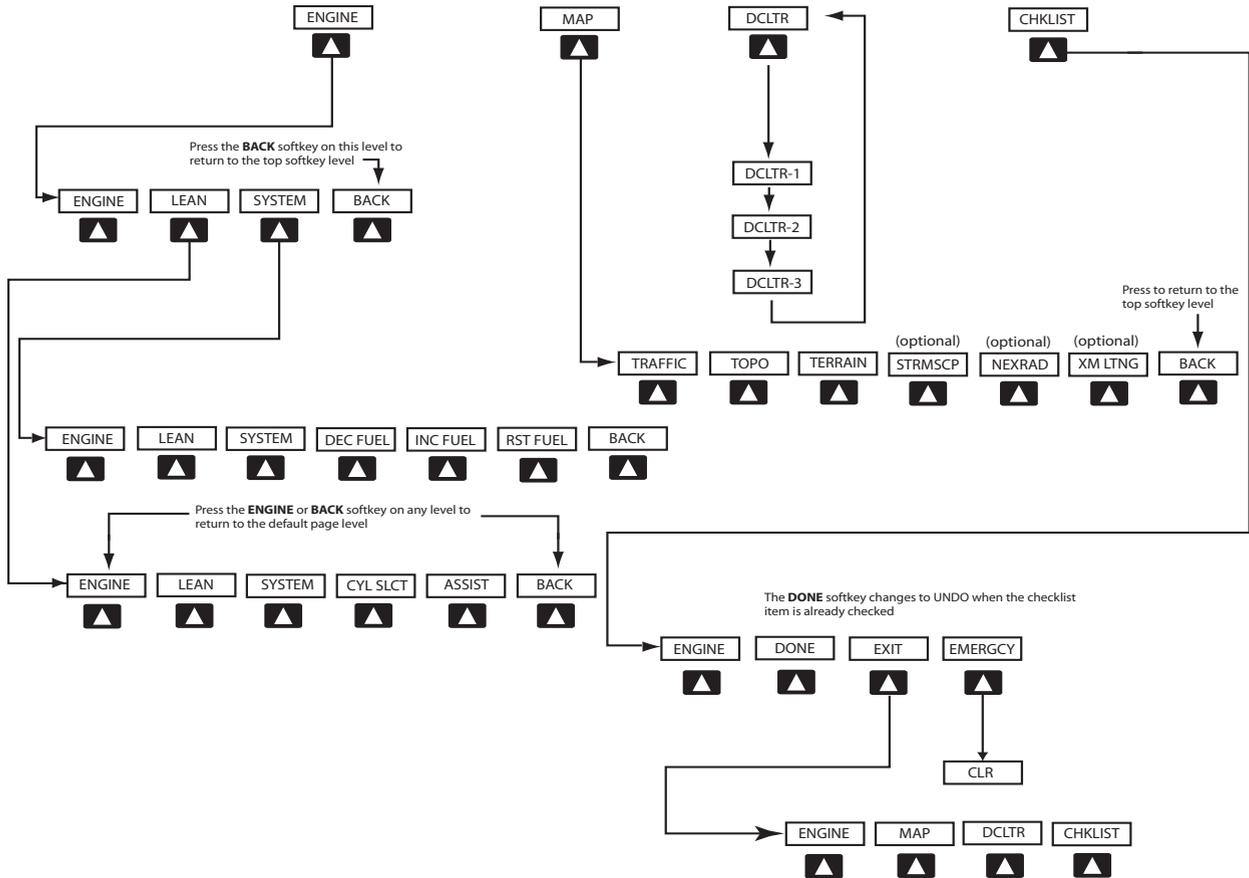

Figure 1-6 MFD Softkeys
2. Turn the **small FMS** knob to select pages within the group. See Figure 1-6.